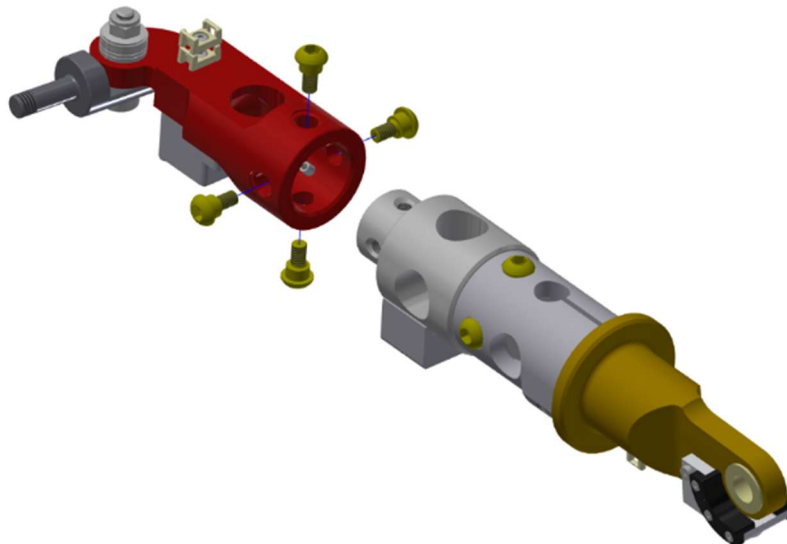

Figure 11-9. Remove the four Modified BHSS M6 Thread (W50-61042) from the Distal Upper Arm Tube (484-6110-1,2)
11.2.6 Remove the four Modified BHSS M6 Thread (W50-61042) from the Distal Upper Arm Tube (484-6110-1,2) connecting to the Upper-Lower Arm Load Cell Structural Replacement (484-6106) (Figure 11-9).